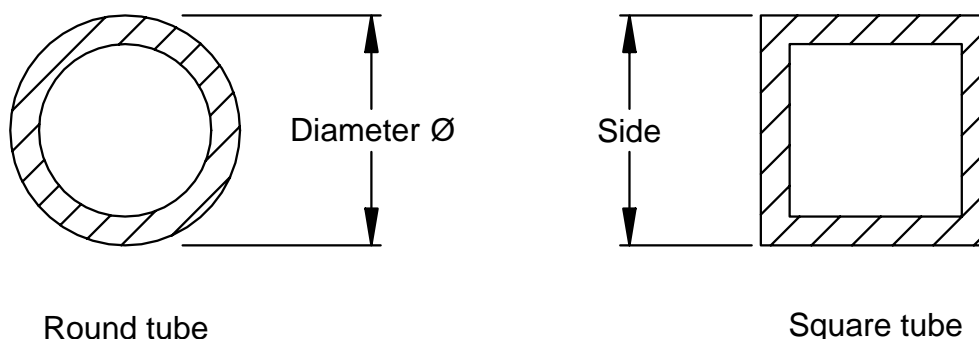

Figure 5-A:
- 5.1.3 If the installation of the Front Fork System is on a new truck without factory forks installed, consult body manufacturer for the fork hydraulic extension dimension that is ideal for their truck (refer forward to Figure 5-B).